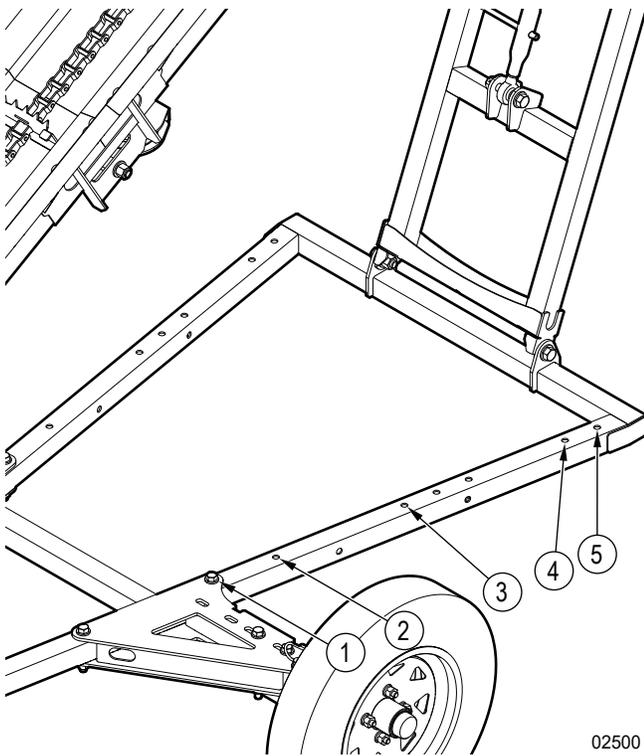

Figure 36—Axle settings for adjusting the tongue weight
2. On each side of the machine, remove the two fasteners (6) that attach the axle bar (4) to the axle (3).
3. On one side of the machine, remove the two axle fasteners (1) that attach the axle to the base frame (5).
4. Align the axle and spanner bar (2) with one of the approved axle settings for your machine. See *Figure 36*.